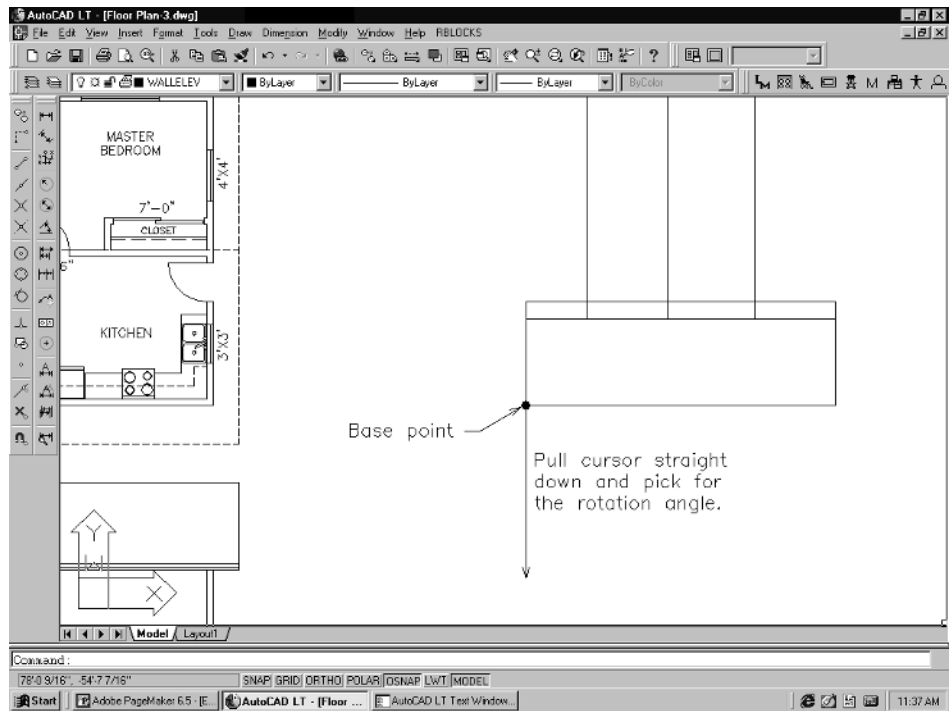

Figure 4-23
3. When prompted to *Specify rotation angle or [Reference]*, pull your cursor straight down and pick. Your elevation should rotate so that it is now in a horizontal orientation as shown in Figure 4-23.